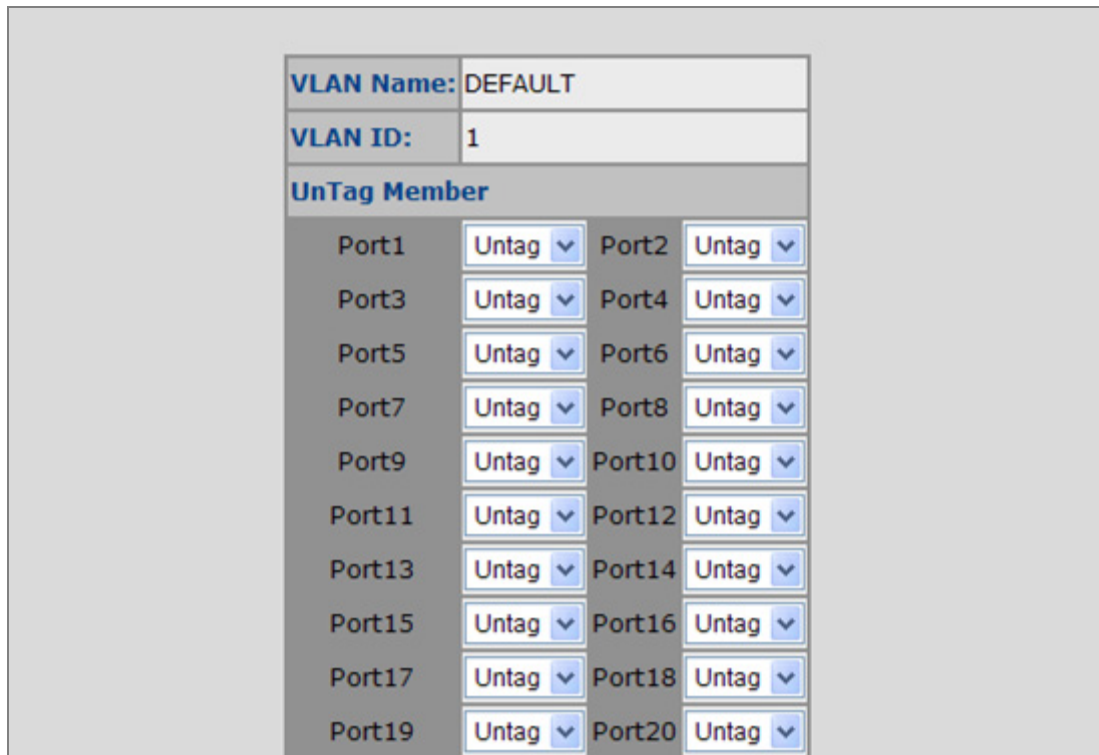

Figure 4-4-6: 802.1Q VLAN Setting Web Page screen
5. Select specific port as member port and the screen in Figure 4-4-6 appears.